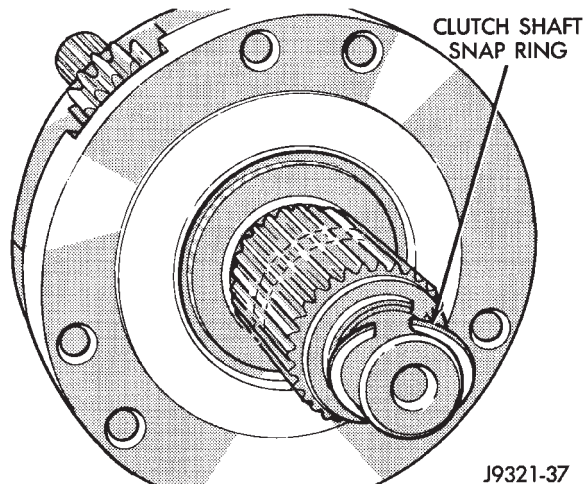

Fig. 79 Installing Clutch Shaft Snap Ring
(17) Install clutch shaft snap ring (Fig. 79). Be sure snap ring is fully seated in ring groove.